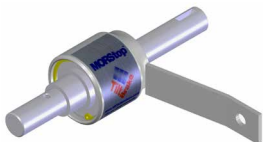

**Figure 2.1**
- 1. Bracket Assembly Kit # 4556-P** is required to handle a RIMLESS plastic drum (figure 2.1), and is also recommended for a fiber drum. The Bracket adjusts for a 31" to 39" (79 to 99 cm) tall drum. You can also handle a rimmed drum with the Bracket installed.